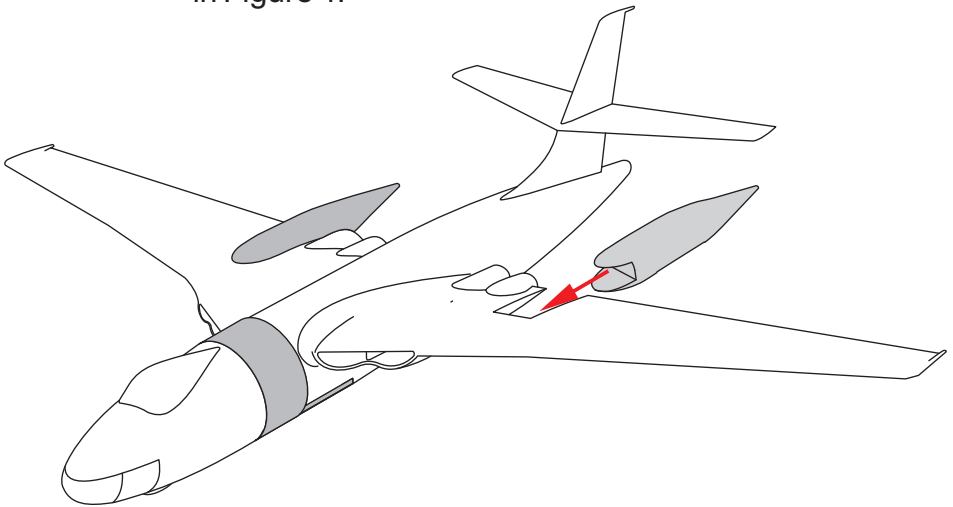

Figure 5
- C Attach each landing gear pod to the airframe as shown in Figure 5 with epoxy cement. Make sure that it is accurately aligned and leave the assembly until the cement has cured.